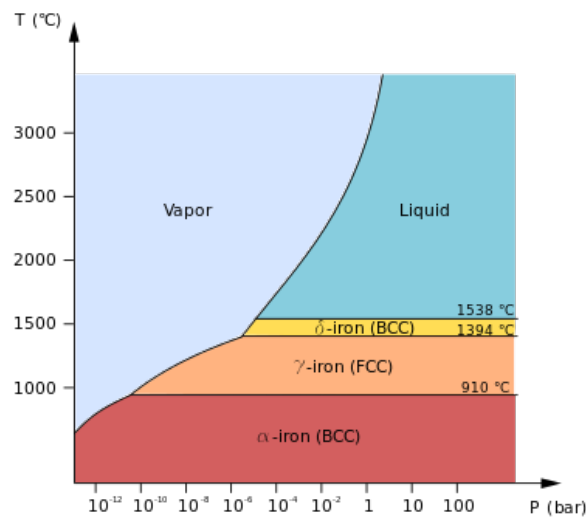

Figure 1: Two allotropes of iron and the associated phase diagram.
3. **Diffraction Spectra. (10 pts)** As molten iron cools, it forms an allotrope with a body-centered cubic crystal structure. Cooling iron further causes the formation of a face-centered cubic allotrope. Figure 1 shows x-ray diffraction spectra of these iron allotropes with a Cu source at  $1.54 \text{ \AA}$ .